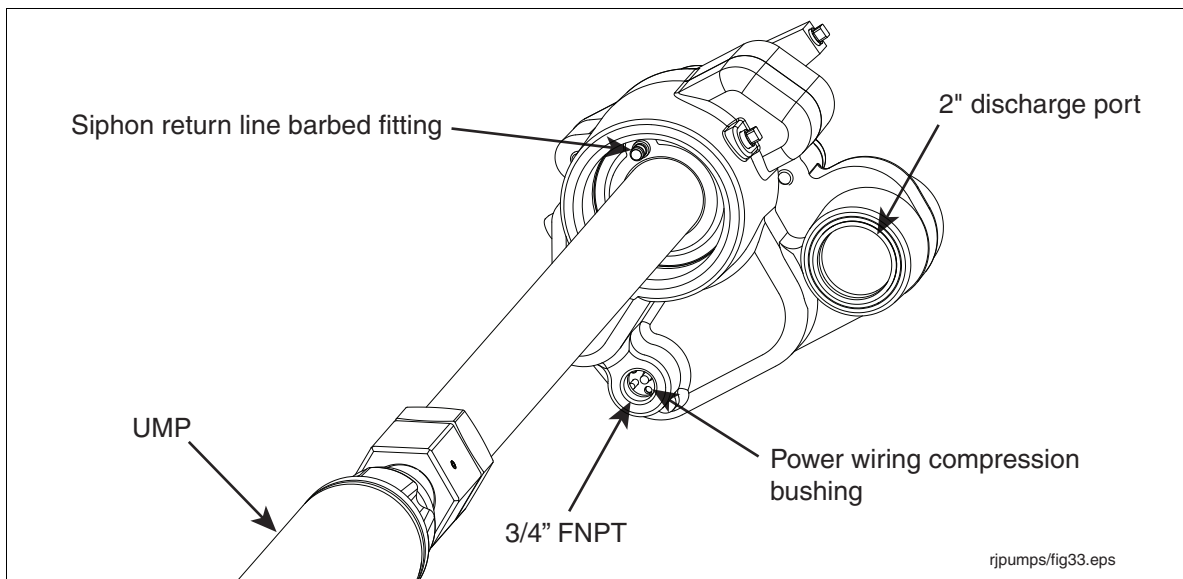

Figure 12. Locating Return Line Fitting On Packer
7. Attach the siphon return line tubing to the barbed fitting in the base of packer and secure with a clamp (see Figure 12).